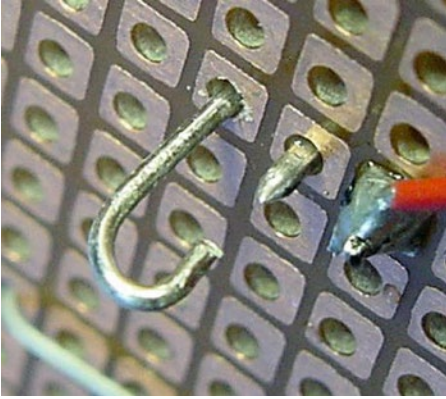

Figure 23-11. Bare wire shaped to connect to underside of Molex KK connector
2. Loop some bare wire starting at the positive pin on the Molex header that receives power from the power switch (see Figure 23-11). This bare wire is the beginning of the positive distribution bus.